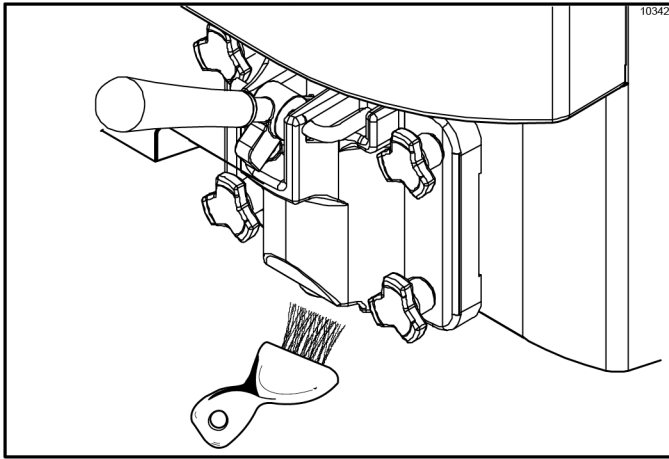

Figure 6-53
2. Return to the freezer with a small amount of sanitizing solution. Dip the door-spout brush into the sanitizing solution and brush-clean the door spout and bottom of the draw valve. (See Figure 6-53.)